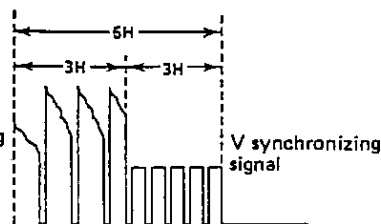

Figure 8-3-2
- 4) Then set the synchronization slope to (+), and ascertain that the interval between the trigger point and the V synchronizing signal is 6H. (Figure 8-3-2)